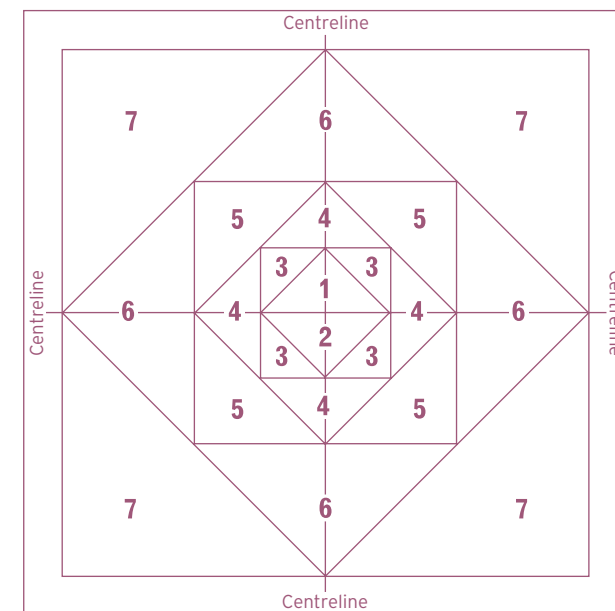

Figure 11 Continue working in larger pyramids
- > Repeat this sequence on the opposite side of the centreline shown as area 2 in figure 11. Continue working in larger and larger pyramids, as shown in figure 11, until only the perimeter tiles require fitting.